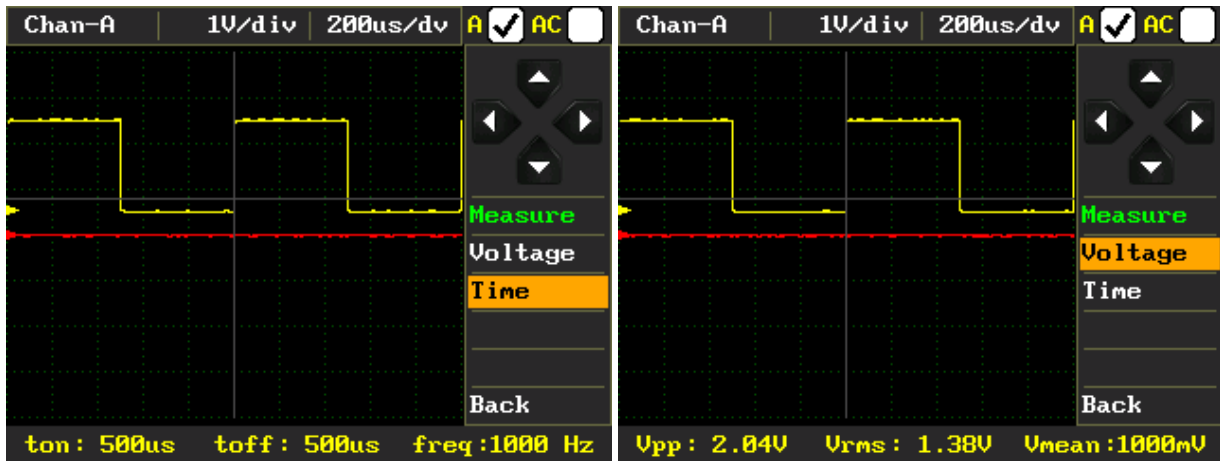

Figure 9a. Auto measurement for time (CH-A) Figure 9b. Auto measurement for voltage (CH-A)
- T_{on} : The duration of the interval in which the signal is positive. If the level of the vertical trigger (15) is between the maximum and minimum values of the signal, it will be calculated as the time of the remaining portion above this level. If the trigger source (8) and the channel selection (1) belong to different channels, then the average of the maximum and minimum level is taken and the duration of the remaining time above this part is measured.
- T_{off} : The inverse of t_{on} time. That is, the time remaining below vertical triggering (15) level. The measurement strategy in T_{on} time is also valid here.
The time values calculated for channel A (1) in Figure 9a are shown at (12). And also, voltage values are shown for channel A in Figure 9b.